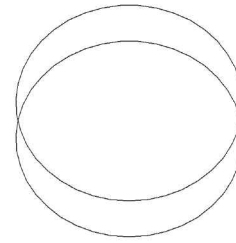

FIGURE 4-2.13
48. **Copy** the ellipse vertically downward $3\frac{1}{2}"$ (Figure 4-2.13).